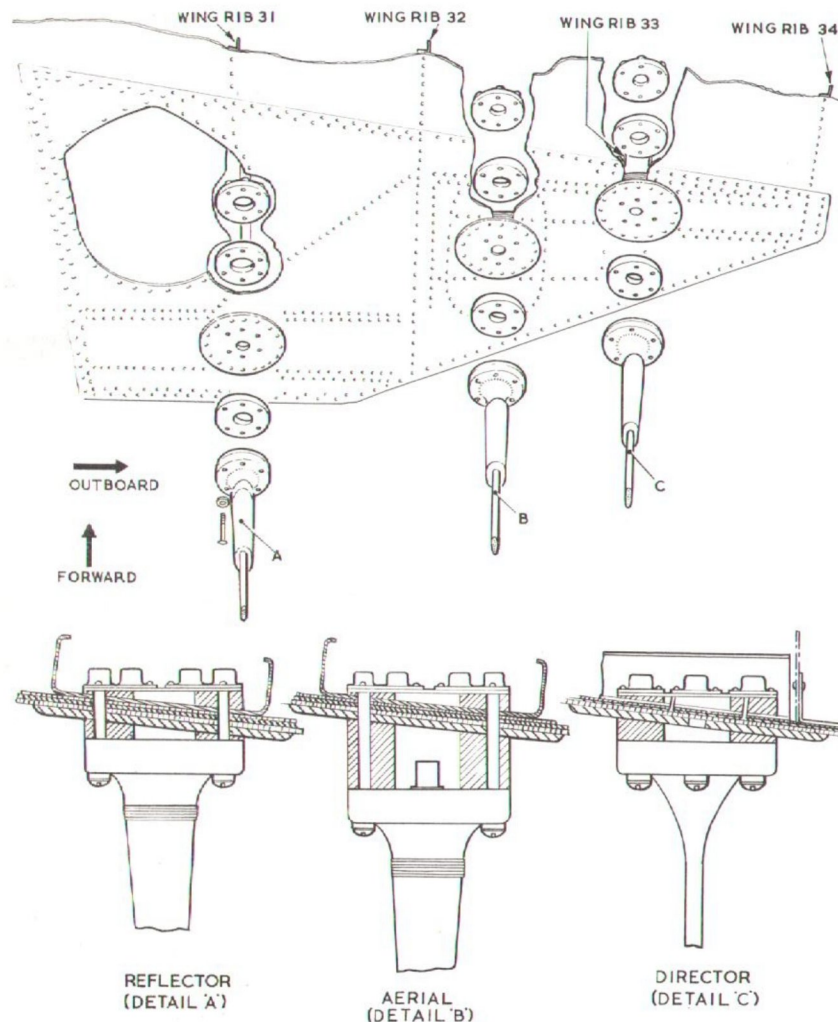

Fig.2 - Assembly of aerial
4. The aerial array consists of a quarter-wave blade, with a reflector and director, mounted on the underside of each outer mainplane, as shown in fig.2. To avoid any mismatch between the two aerials, the port and starboard feeder cables are manufactured equal in length.